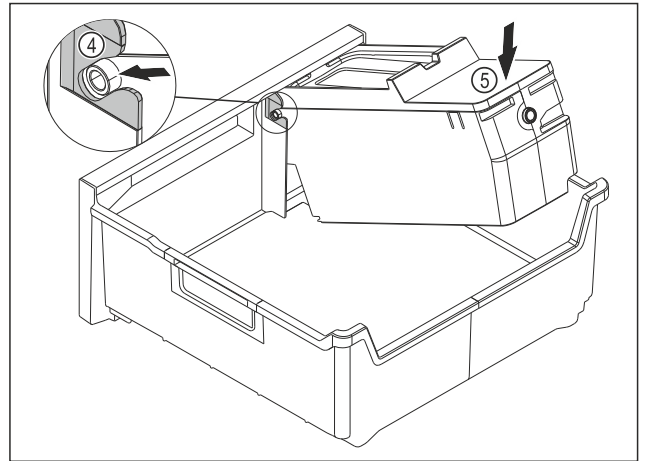

Fig. 95
- ▶ Installing the EasyTwist-Ice body: Insert the axes of the EasyTwist-Ice body into the guides Fig. 95 (4).
- ▶ Press down the EasyTwist-Ice body Fig. 95 (5) at the rear.